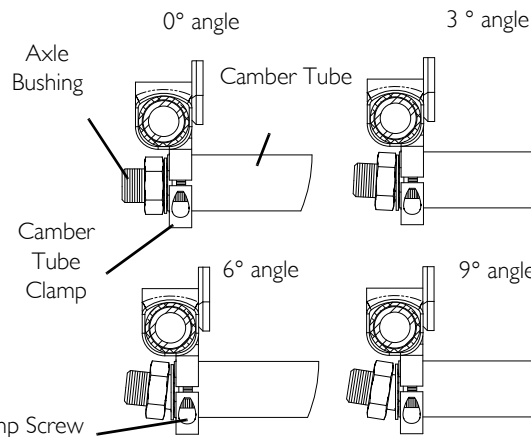
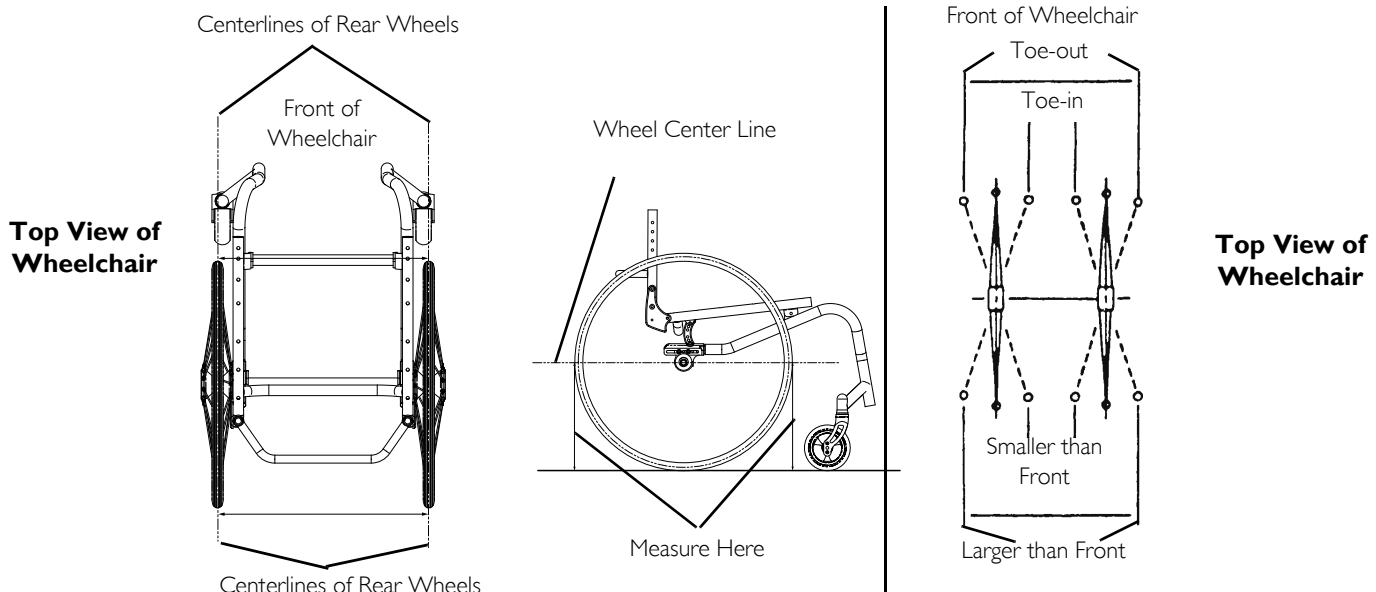

FIGURE 12 Adjusting Wheelbase Length, Adjusting Center of Gravity (COG)
FIGURE 14 Determining/Setting Toe In/Toe Out
For this procedure, refer to FIGURE 12 on page 74 and FIGURE 14.
2. Measure the distance between the centerlines at the rear and front of the rear wheels at approximately 12 inches (for 24-inch diameter wheels) from the ground/floor (FIGURE 14).
- If the back centerline measurement of the rear wheels is SMALLER than the front centerline measurement of the rear wheels, a TOE-OUT condition exists (FIGURE 14).
- If the back centerline measurement of the rear wheels is LARGER than the front centerline measurement of the rear wheels, a TOE-IN condition exists (FIGURE 14).
- A. Loosen both mounting socket head clamp screws (FIGURE 12).
- B. Rotate the camber tube until front and rear measurement are within $\frac{1}{8}$ -inch (FIGURE 12).
- C. Securely tighten both socket head clamp screws (FIGURE 12).